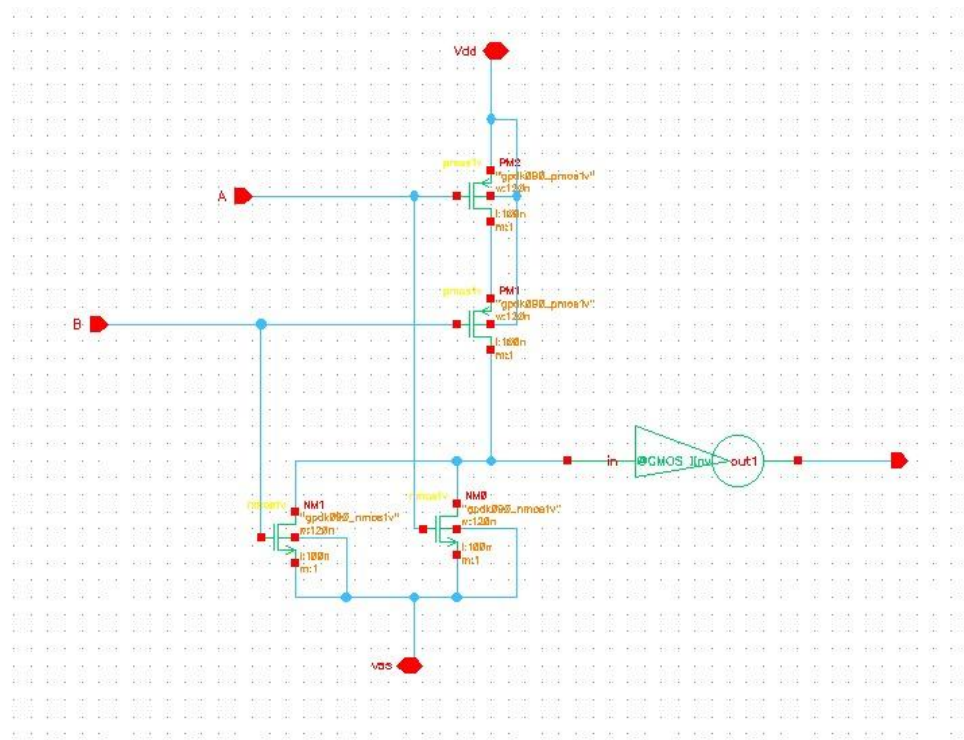

Figure 8: Schematic diagram of CMOS OR gate
- The inputs and output plot of OR gate was given in figure 8.